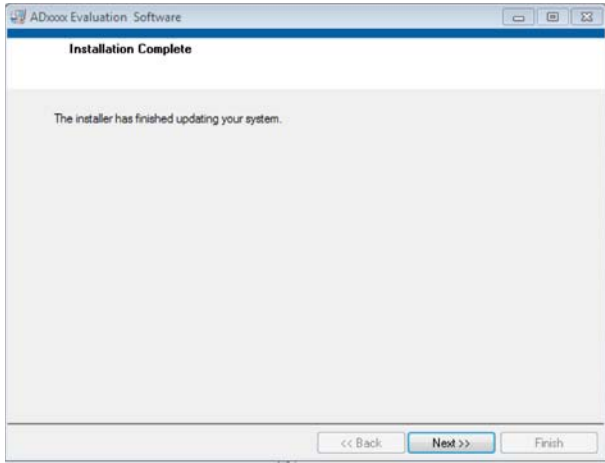

Figure 5. Installation Complete Window
7. A dialog box informs the user when the EVAL-AD7606BFMCZ evaluation software installation is complete (see Figure 5). Click **Next** to proceed with the installation of the SDP drivers.